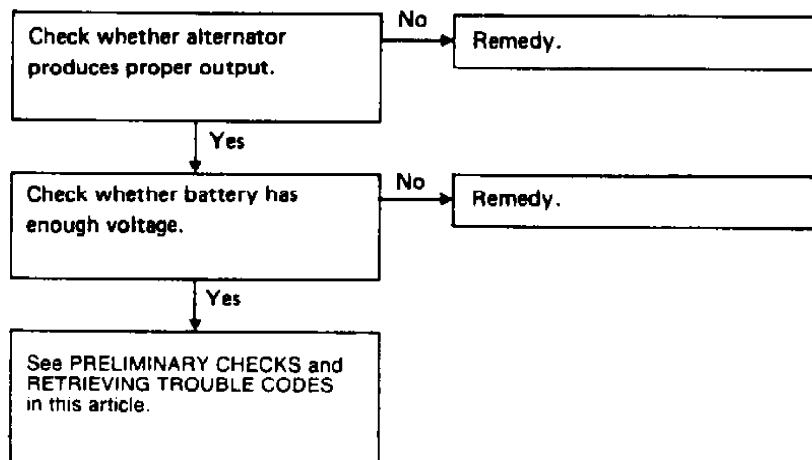

Fig. 12: No-Code - ABS Works, But ANTI-LOCK Light Activates Trouble Shooting Chart. Courtesy of Nissan Motor Co., U.S.A.
- ABS Works But ANTI-LOCK Light Activates - See Fig. 12.